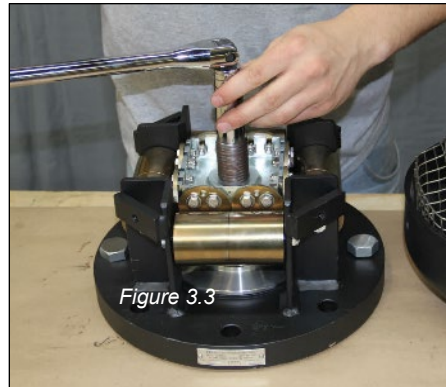

Figure 3.3
4. Rotate the adjustment screw counterclockwise, lowering the spring block. This will relieve the tension on the springs. Rotate the adjustment screw until the spring pressure is completely relieved (*Figure 3.3 & 3.4*).